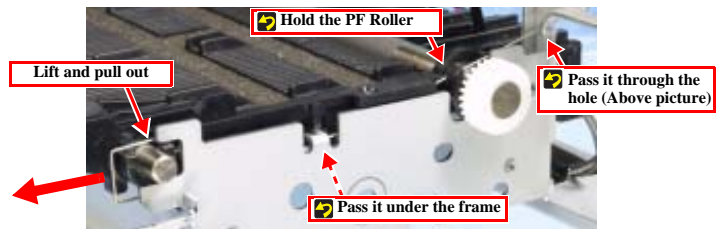

Figure 4-81. Removing the PF EJ Ground Spring
- See Fig. 4-81 and install the Ground Spring.